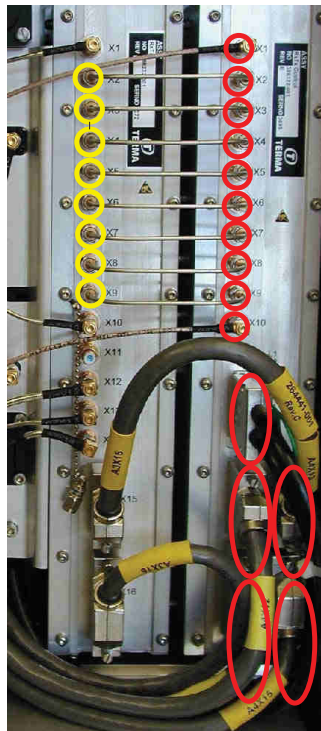

Fig. 7.35 Connectors
- 3 On RxTx Control, loosen all SMA connectors (X1 - X10) using tools 13/14, four D-Sub connectors (X12, X13, X14, X15) using tool 11 and one PCIe connector (X11) as indicated on the RxTx Control module with red circles and ellipses - see Fig. 7.35 \(p. 138\).
- 4 On the RxTx to the left of the RxTx Control, loosen SMA connectors X2 - X9 to remove or turn the semi-rigid cables so the RxTx Control can be pulled out without any obstructions - use tools 13/14. Indicated with yellow circles in Fig. 7.35 \(p. 138\).